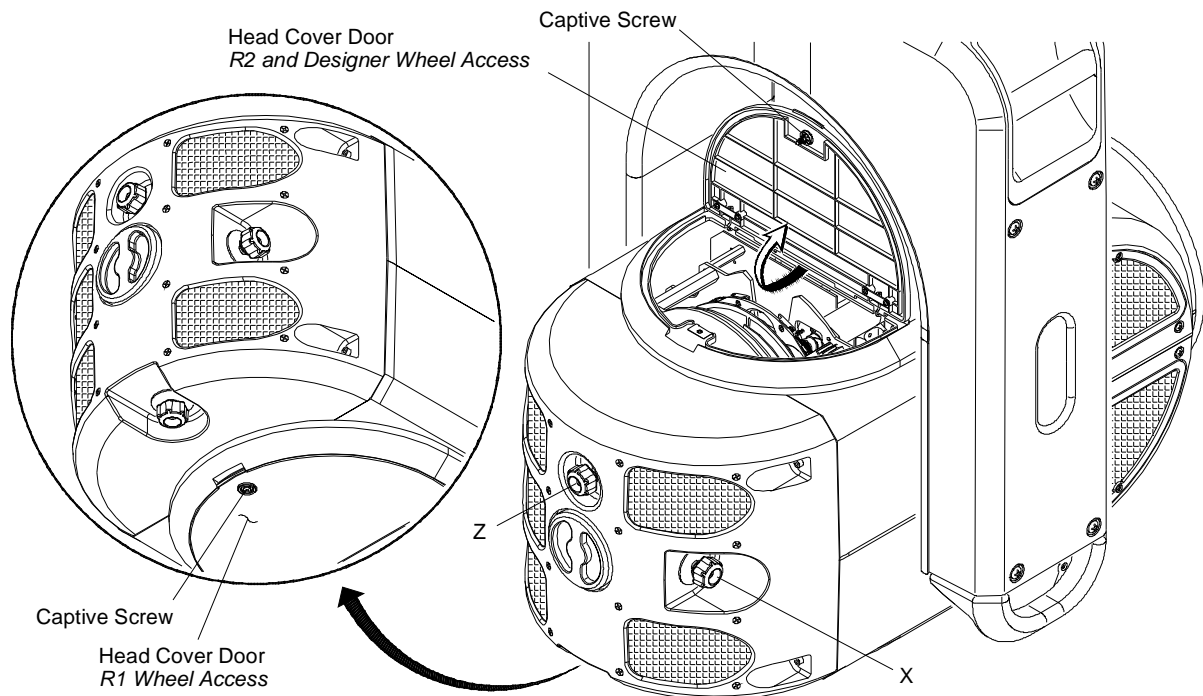

Figure 3-13: Accessing Gobo and Designer Color Wheels
- Step 2. Locate appropriate head cover door for access to Rotating Gobo Wheel 1 (R1) or Rotating Gobo Wheel 2 (R2) as shown in **Figure 3-13**. (Doors are identified by a label.) Turn captive screw to open door.
- Step 2. Locate appropriate head cover door for access to Designer Color Wheel as shown in **Figure 3-13** on **page 43**. (Doors are identified by a label.) Turn captive screw to open door.